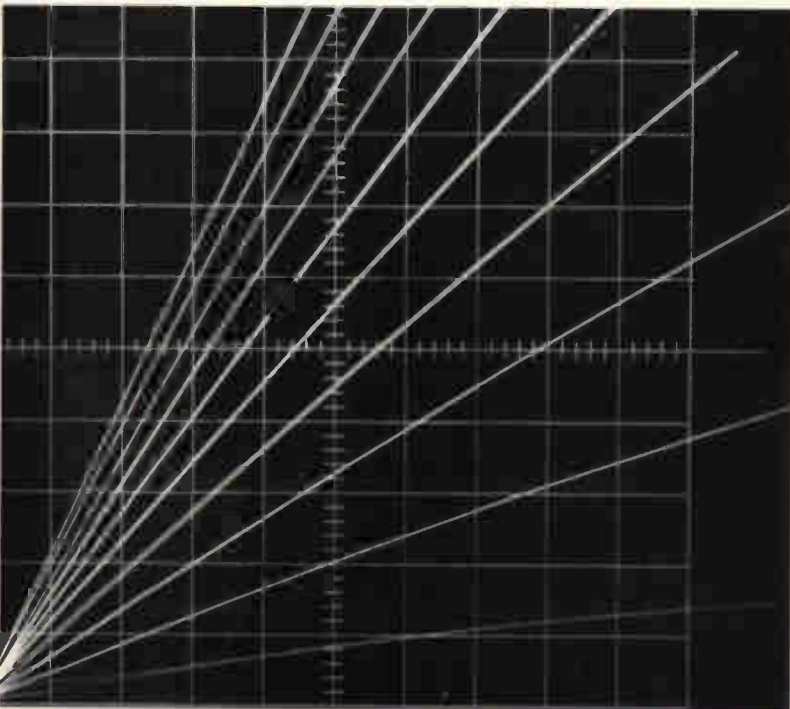

Fig. 13. Showing linearity of drain characteristics near the origin.
Figure 13 shows an expanded view of the drain characteristics in the vicinity of the origin. These exhibit the linearity predicted by equation (18) over the V_{DS} range observed. Practical applications of the mosfet model are considered next.